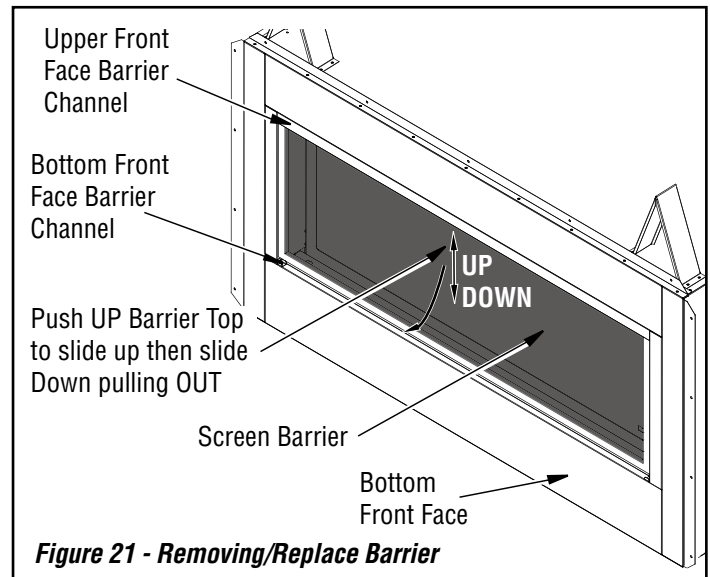

Figure 21 - Removing/Replace Barrier
1. To remove barrier, push barrier top up to slide it up then slide down pulling barrier out (see **Figure 21**).
2. Install the barrier by sliding in into the top channel with the flat side toward the fireplace, then swinging the base of the barrier into the bottom channel and lowering it into place (see **Figure 21**).